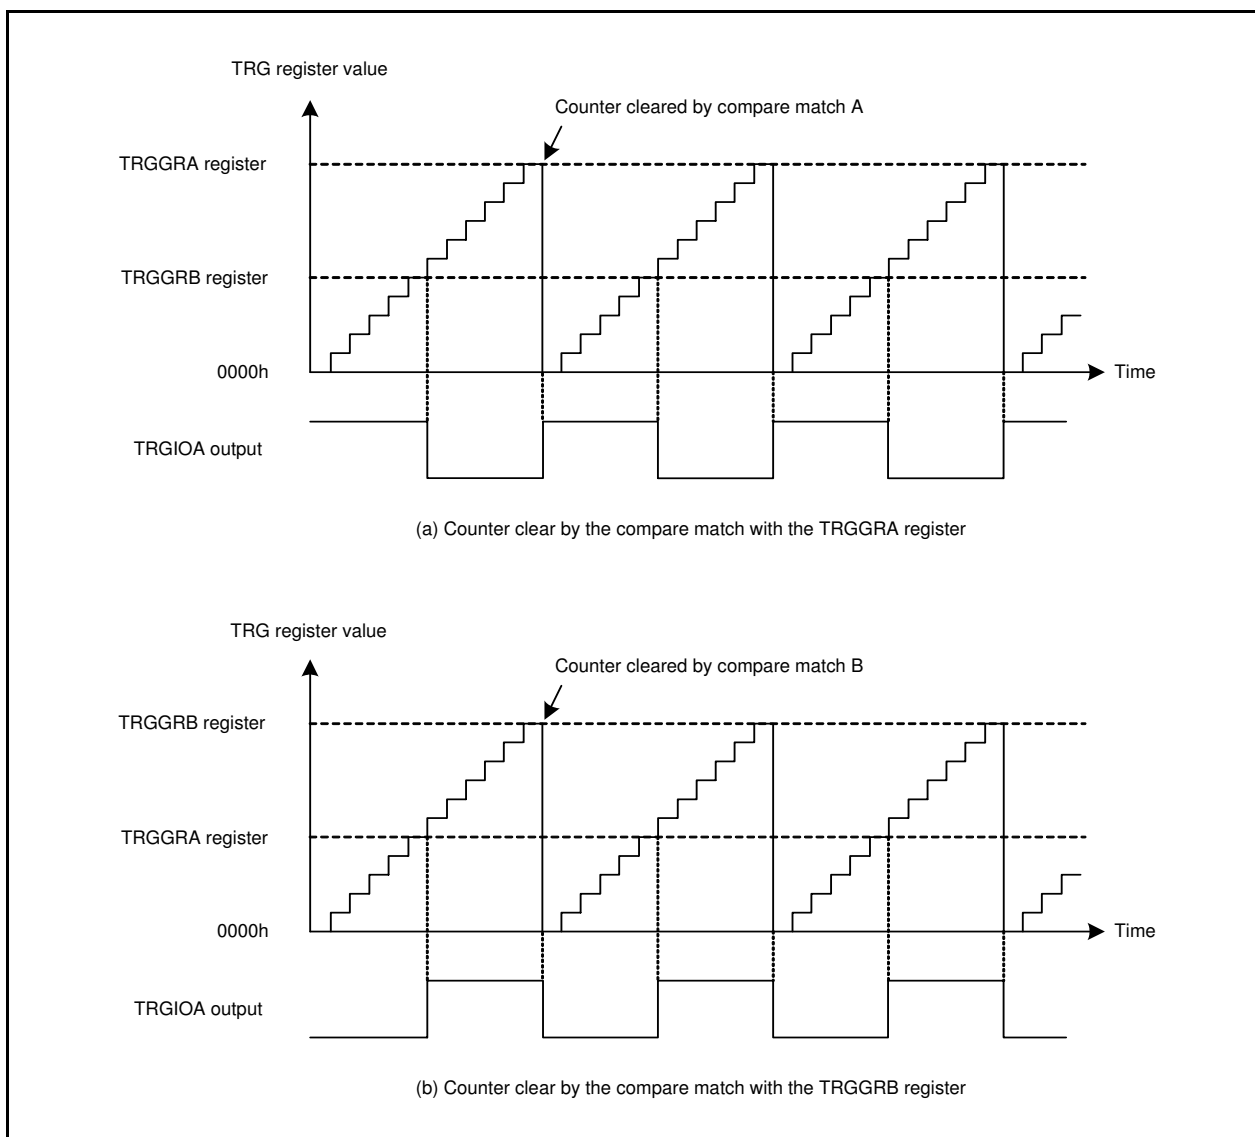

Figure 22.14 Operating Example in PWM Mode (1)
Figure 22.14 shows an Operating Example in PWM Mode (1).